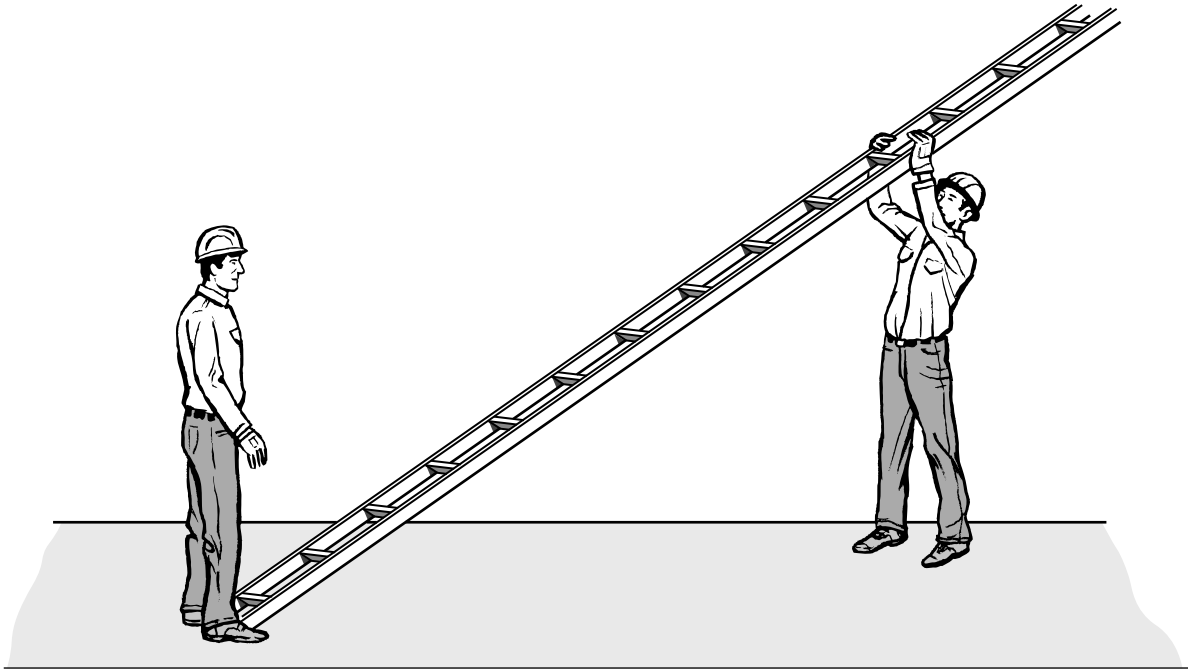

Figure 9 — Setting up a ladder with a helper
3. Walk down the length of the ladder, lifting as you go and moving your hands from rung to rung. Have your helper bear some of the weight of the ladder (Figure 9).